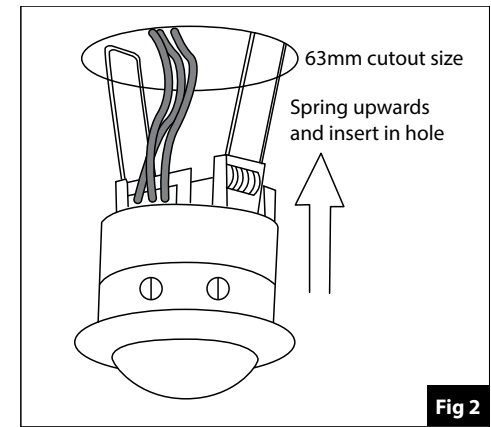

Fig 2
9. Press the side springs upwards against the side of the unit and offer up into the hole in your ceiling. (See fig. 2 opposite).